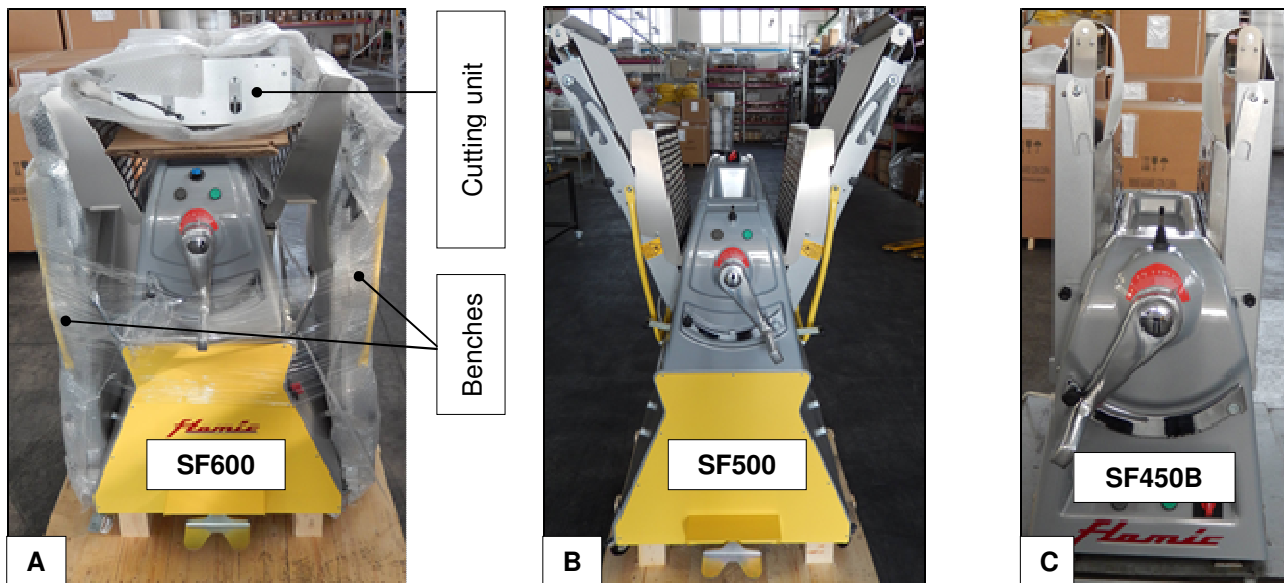

Figure 8 - Handling the palletised machine using a forklift truck
- wrapped in "bubble wrap", stretch film and fixed to a pallet (see example in Figure 8/A)
- without wrapping materials, fixed to a pallet (see example in Figure 8/B)
Model SF600 machines are shipped with the benches dismantled and packaged together with the rest of the machine. The cutting unit, if ordered, will also be included in the same package (see Figure 8/A).
Models SF450 and SF500 are shipped with the benches installed and folded (Figure 8/B-C).
The instructions 3.4.1 for installing the tables of a model SF600 sheeting machine are given in section 3.2, which, as explained in section , when supplied by Flamic, have to be installed on the machine (even if they are received in the same package. See Figure 8/A).